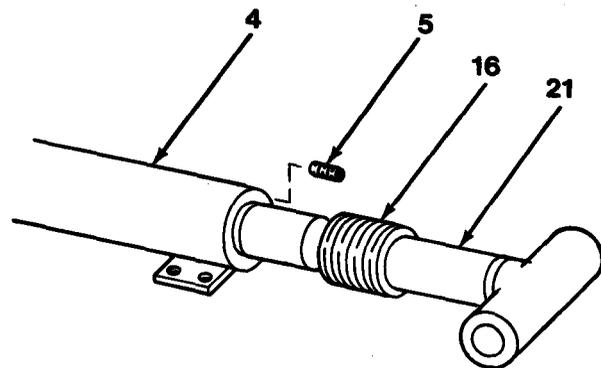

Figure 13-2
11. Install assembled rod assembly (21) in cylinder case (4, Figure 13-2).
12. Using spanner wrench, install head gland (16) in cylinder case (4).
13. Tighten setscrew (5).